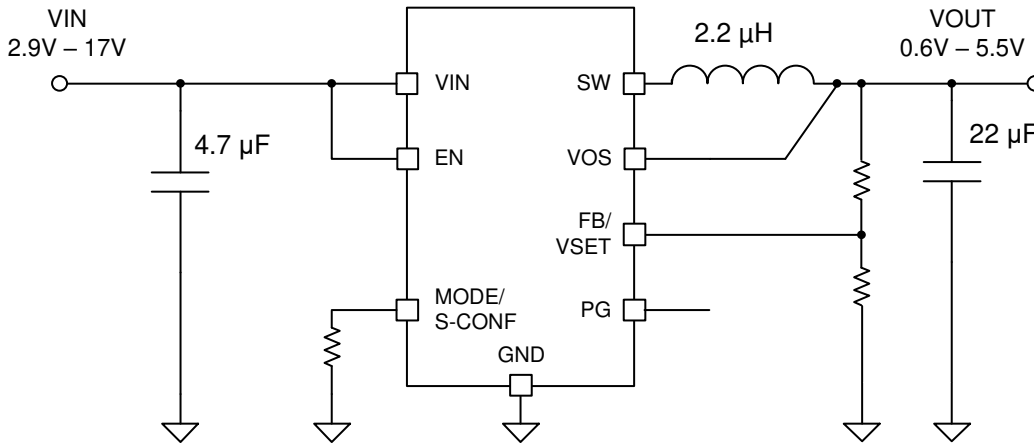
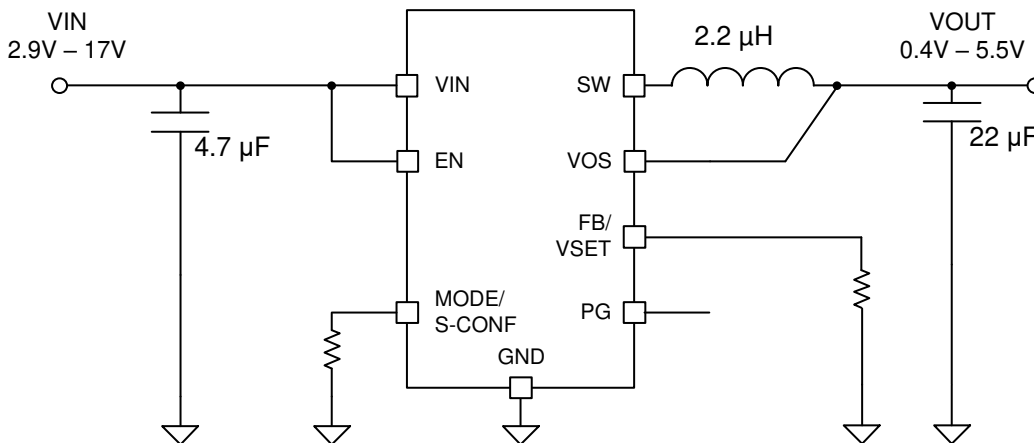

Figure 3-2. Adjustable V_O Operation Schematic
Figure 3-3. Set-able V_O Operation Schematic
- The device is operating in one of the two typical application configurations show in Figure 3-2 or Figure 3-3.
- (1) Damage will occur if Vin is greater than the 6-V Absolute Maximum Rating for the pin
- (2) Damage will occur if Vin is greater than the 6-V Absolute Maximum Rating for the VOS pin.
- (3) Applies to a typical application schematic as show in Figure 3-2
- (4) Applies to a typical application schematic as show in Figure 3-3
- (5) Assumes Pin FMA condition occurs prior to device being enabled. If Pin FMA conditon occurs after device is operating, the part will continue operating as previously configured.